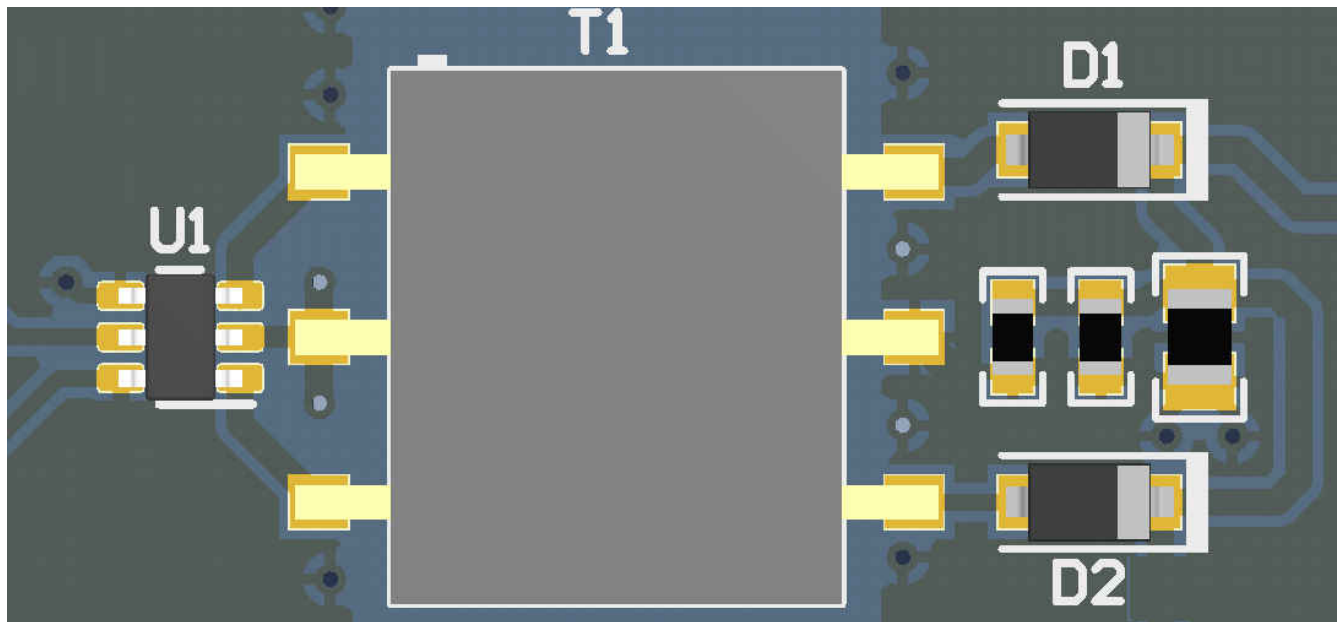

图 11-1. Layout Example of a 2-Layer Board
- The optimum placement is closest to the V_{IN} and GND pins at the board entrance to minimize the loop area formed by the bypass-capacitor connection, the V_{IN} terminal, and the GND pin. See Figure 11-1 for a PCB layout example.